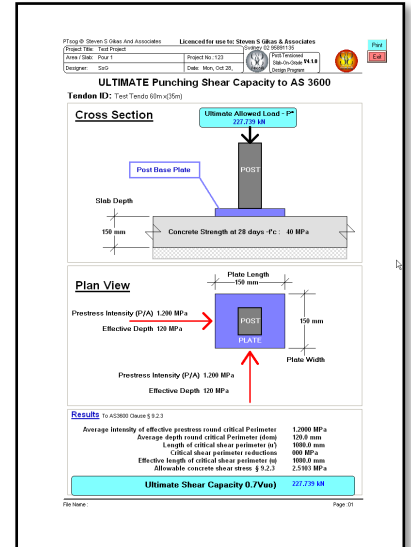

Figure 35: Punching Shear
- Punching Shear Check (Figure 35)